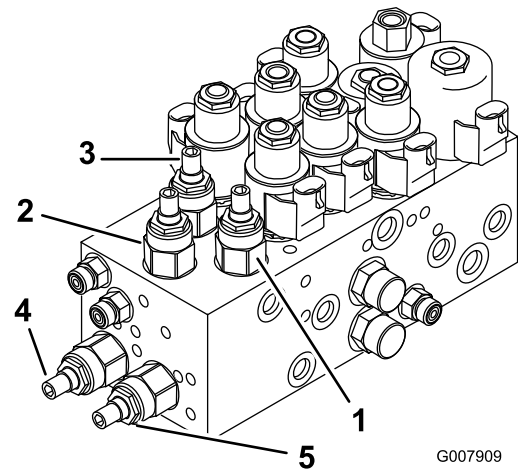

Figure 79
2. Locate the valves, on the lift manifold, for adjusting the desired cutting unit(s); refer to the chart and Figure 79.